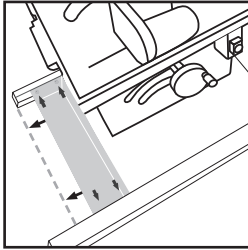

Fig. 1
- Loosen the 4 bolts under the large table extension and slide the extension to line up with the end of the rear slide rail. (Fig 1)